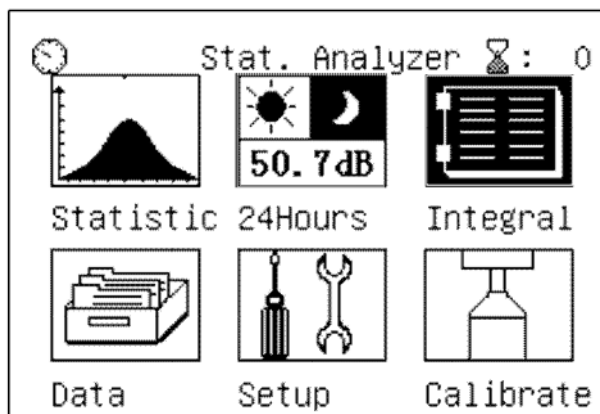

Fig. 19: Integral analysis selection
1. Use the “” or “” keys to select the “Integral” icon (see Fig. 19) and confirm with “”.